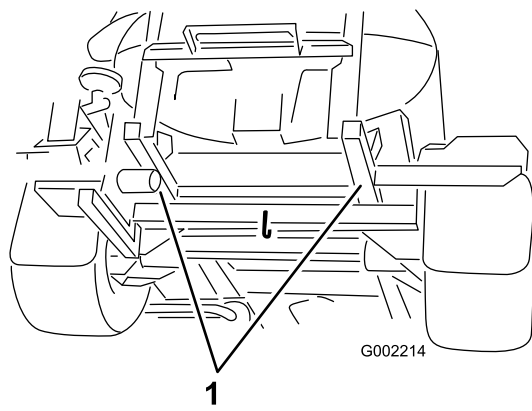

Figure 55
2. Affix a tow line to the frame; refer to the front and rear towing points (Figure 54 and Figure 55).